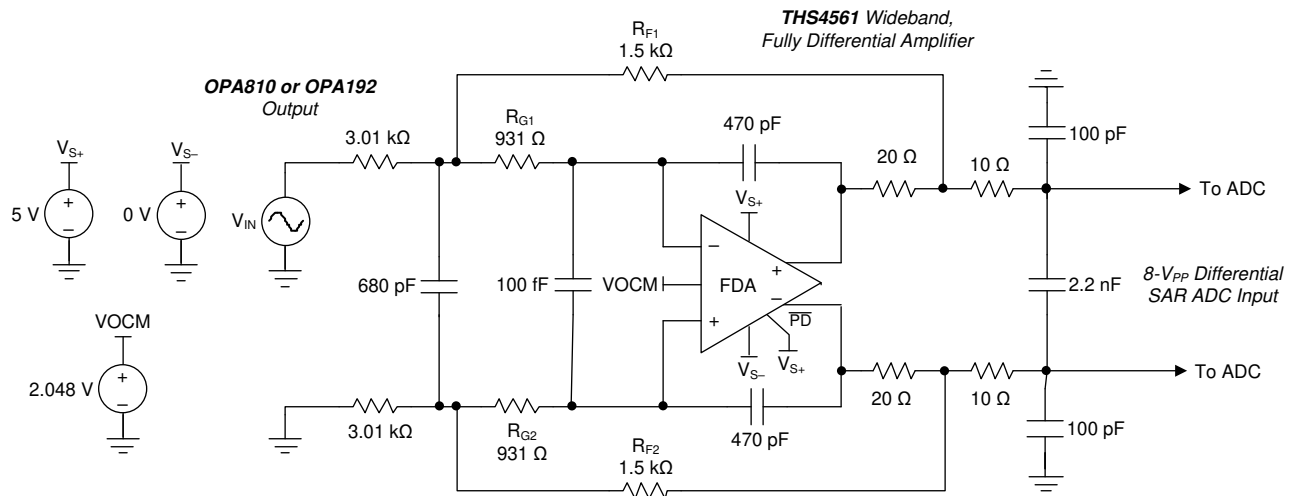
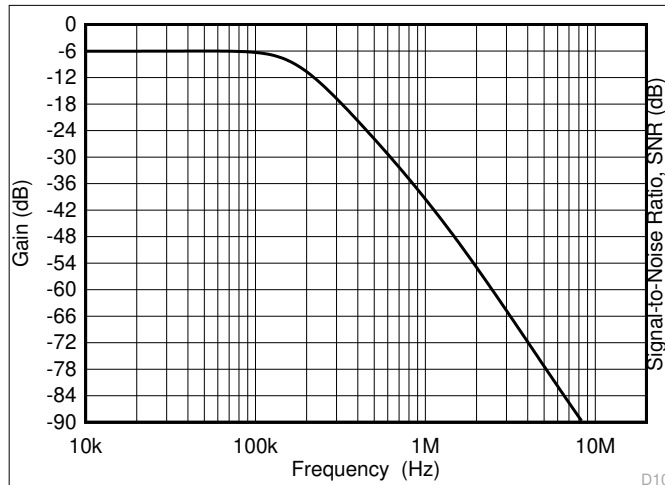
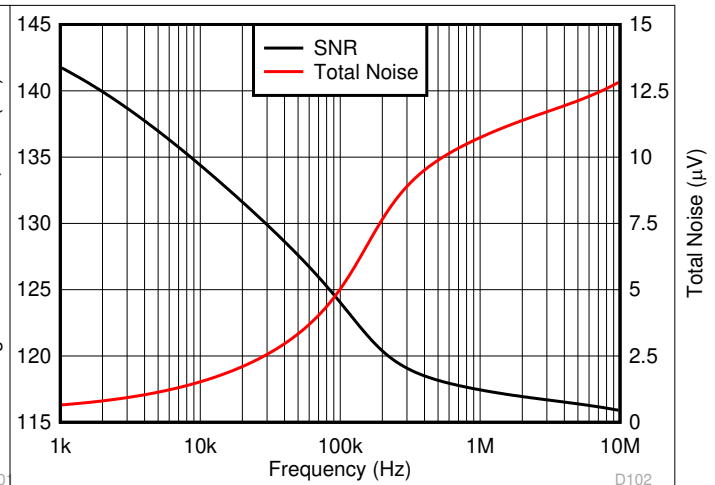

图 10-7. MFB Filter Driving an ADC Application:
图 10-8. Gain Plot for a 170-kHz Butterworth Filter
图 10-9. Signal-to-Noise Ratio and Total Noise Plot
One common application for the THS4561 is to take a single-ended, high  $V_{PP}$  voltage swing (from a high-voltage precision amplifier such as the OPA810 or OPA192) and deliver that swing to precision SAR ADC as a single-ended to differential conversion with output common-mode control and implement an active 2nd-order multiple feedback (MFB) filter design. Designing for a 16- $V_{PP}$  maximum input down to an 8- $V_{PP}$  differential swing requires a gain of 0.5 V/V. Targeting a 170-kHz Butterworth response with the RC elements tilted towards low noise gives the example design of 图 10-7. The  $V_{CM}$  control is set to half of a 4.096-V reference, which is typical for 5-V differential SAR applications. With the high voltage capabilities of the THS4561, the design can be easily adopted for 20- $V_{PP}$  input swing to the FDA for a full 10- $V_{PP}$  swing into 5-V differential SAR ADC by simply using wider power supplies for the THS4561 to allow for increased output swing headroom with minimal performance degradation.
- Include a place for a differential input capacitor (illustrated as 100 fF in 图 10-7)
图 10-8 和 图 10-9 显示电路的增益响应和噪声结果。图 10-7 显示了一个差分输入电容器的位置（显示为 100 fF），但未用于在此部分中显示的模拟结果。图 10-8 的结果显示了一个平坦的 Butterworth 滤波器响应，该响应通向 ADC 的输出节点。获得 ADC 输入引脚的 SNR，并假设一个 8-VPP 满量程（2.83 VRMS），给出了图 10-9 的结果。图 10-9 中显示的 116-dB SNR 和 13-μVRMS 总噪声并不限制任何 SAR 应用的性能。